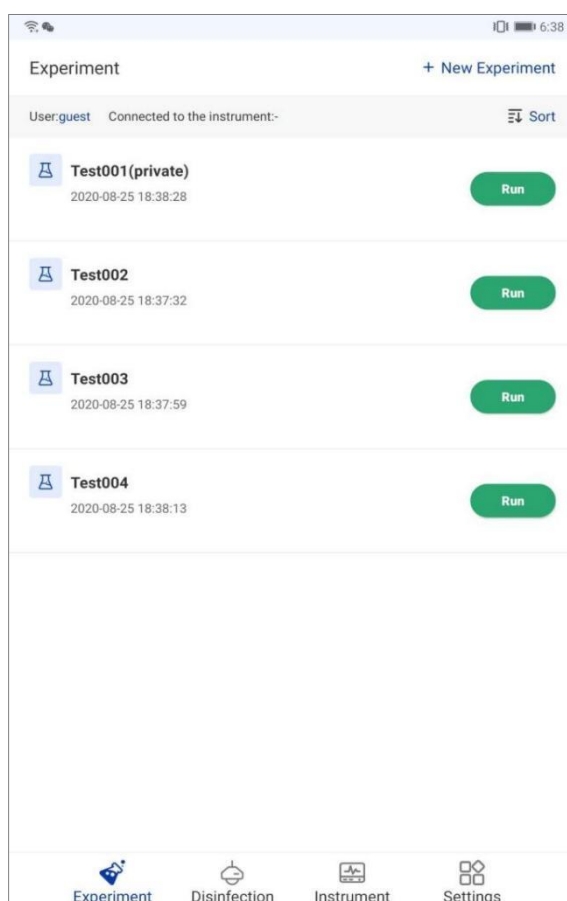

Figure 5-3. Application Software - Experiment Interface
Click <  **Experiment** > and the icon will change into <  **Experiment** >, the main interface will automatically switch to the Experiment interface, where user can add, delete, edit and run/stop experiment, as shown in figure 5-3.
- After finish editing the experiment, user can click < **Save Experiment** > to save current experiment settings and return to Experiment interface, as shown in figure 5-3.